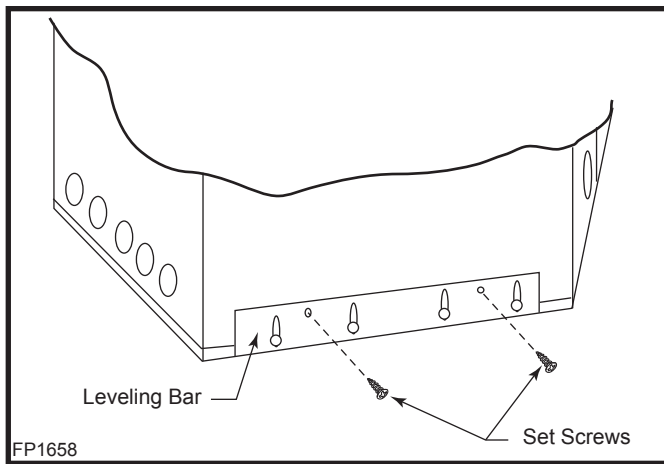

Fig. 8 Adjust leveling bar on A132 only.
2. Loosen the four (4) screws. (Fig. 8)
4. Add the two (2) extra screws to prevent any movement.